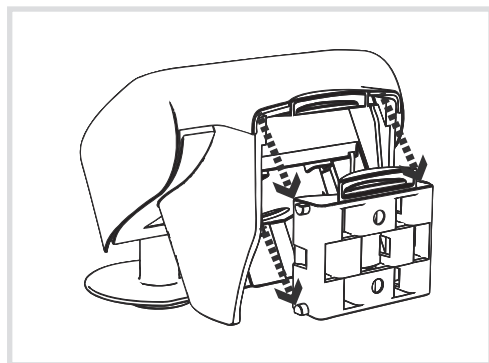

Figure 8: Installing onto the fixing
- (10) Connecting terminals for auxiliary voltage
- (11) KNX bus connection terminal
- (12) Connector for precipitation sensor in the housing cover
- (13) Programming button and programming LED
- (14) GPS antenna
- Place cover (8) onto the bottom part of the housing (3) and push carefully until it engages audibly.
- Slide the weather station into the mounted fixing from above. Ensure that the pins for the wall/mast fixing engage audibly into the guides for the bottom part of the housing (figure 8). The weather station is ready for operation.